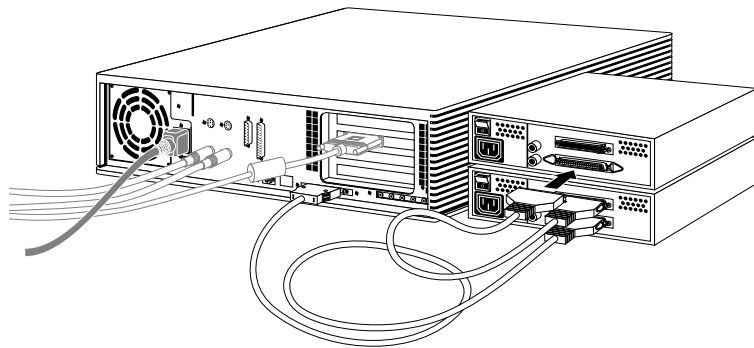

Figure 5-9 Daisy-chaining an External SCSI Device to Another External SCSI Device
- Connect one end of the cable to the open connector on the first device, as shown in Figure 5-9.